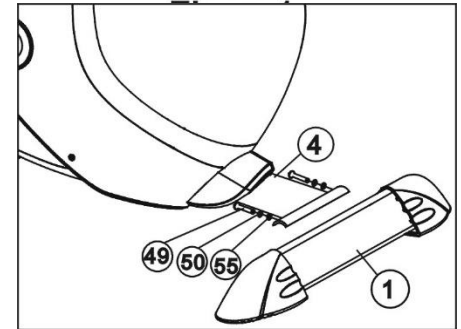

Figure2
Attach the Rear stabilizer (1) to the Main frame (4) with 2 sets of M8*20 bolt(49), Φ8 Spring washer (50) and Φ8 flat washer (55). (Refer figure 2)